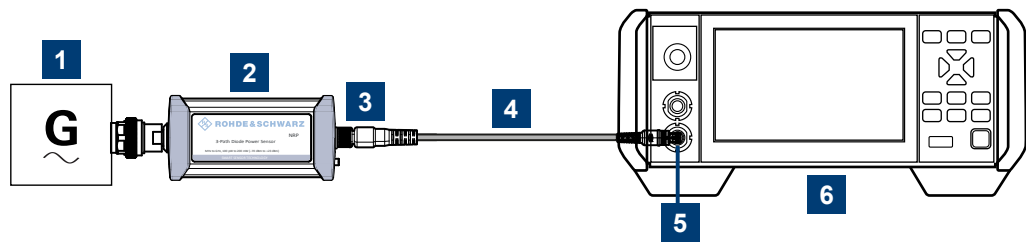

Figure 5-3: Setup with an R&S NRX base unit
2. Connect the cables as shown in Figure 5-3.